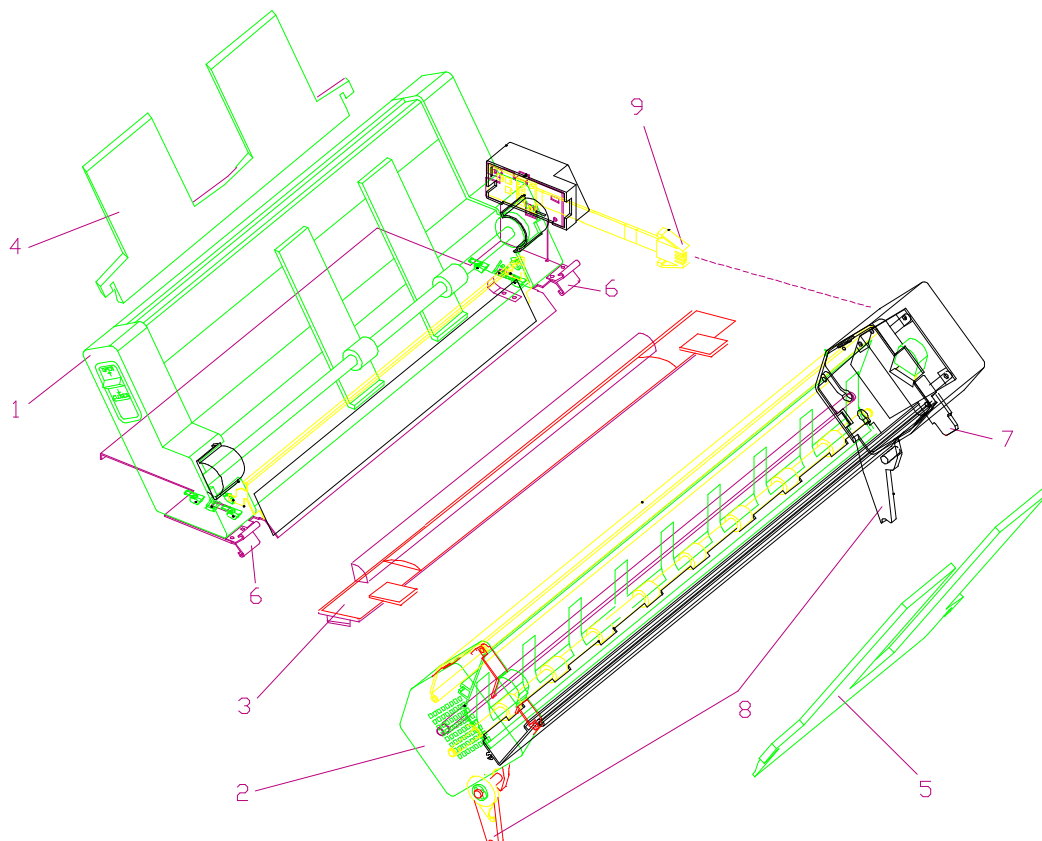

Figure 8.1 1st ASF Components
In the figure 8.1 it is possible to see the various components of the 1st ASF, which are:
- 2) Remove the upper antinoise cover by simply extracting it from the main rear cover and install the new one in the same position (item 3 of fig. 8.1).
- 4) Locate the two grooves on the metal base frame of the mechanical assy. In these grooves you have to insert the two metal hooks of the ASF support (item 6 of fig. 8.1).
- Install the output stacker inserting the grooves (item 8 of fig. 8.1) in the dedicated pins present on the basic mechanism.
- Slowly insert the board edge (item 7 of fig. 8.1) in the connector until the stacker clicks.
- Connect the bin cable (item 9 of fig. 8.1) in the proper connector present in the right side of output stacker.
To remove the output stacker, open the two metal supports of the Output Stacker (item 8 of fig. 8.1) by acting on the two proper black levers and extracting it.